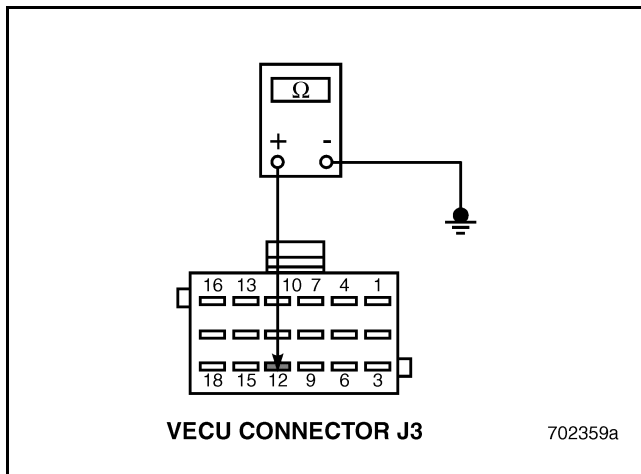

Figure 478
2. Check for continuity between VECU connector J3, pin 12 and a good ground (see Figure 478).